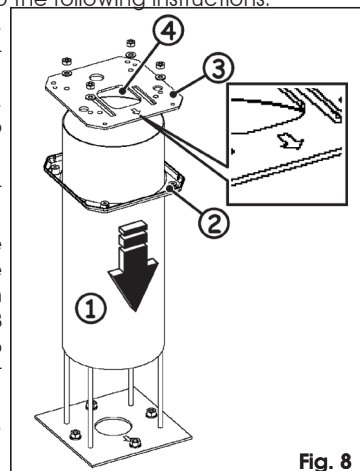

Fig. 8
1. Position the support tube, (Fig. 8 ref.①), on the foundation plate.
2. Insert the plastic housing, (Fig.8 ref.②) and leave it to rest on the ground.
1. Position the upper plate (Fig.8 ref.③) routing the connection cables through the square pocket (Fig.8 ref.④) and allow them to come out for a length of at least 600 mm.